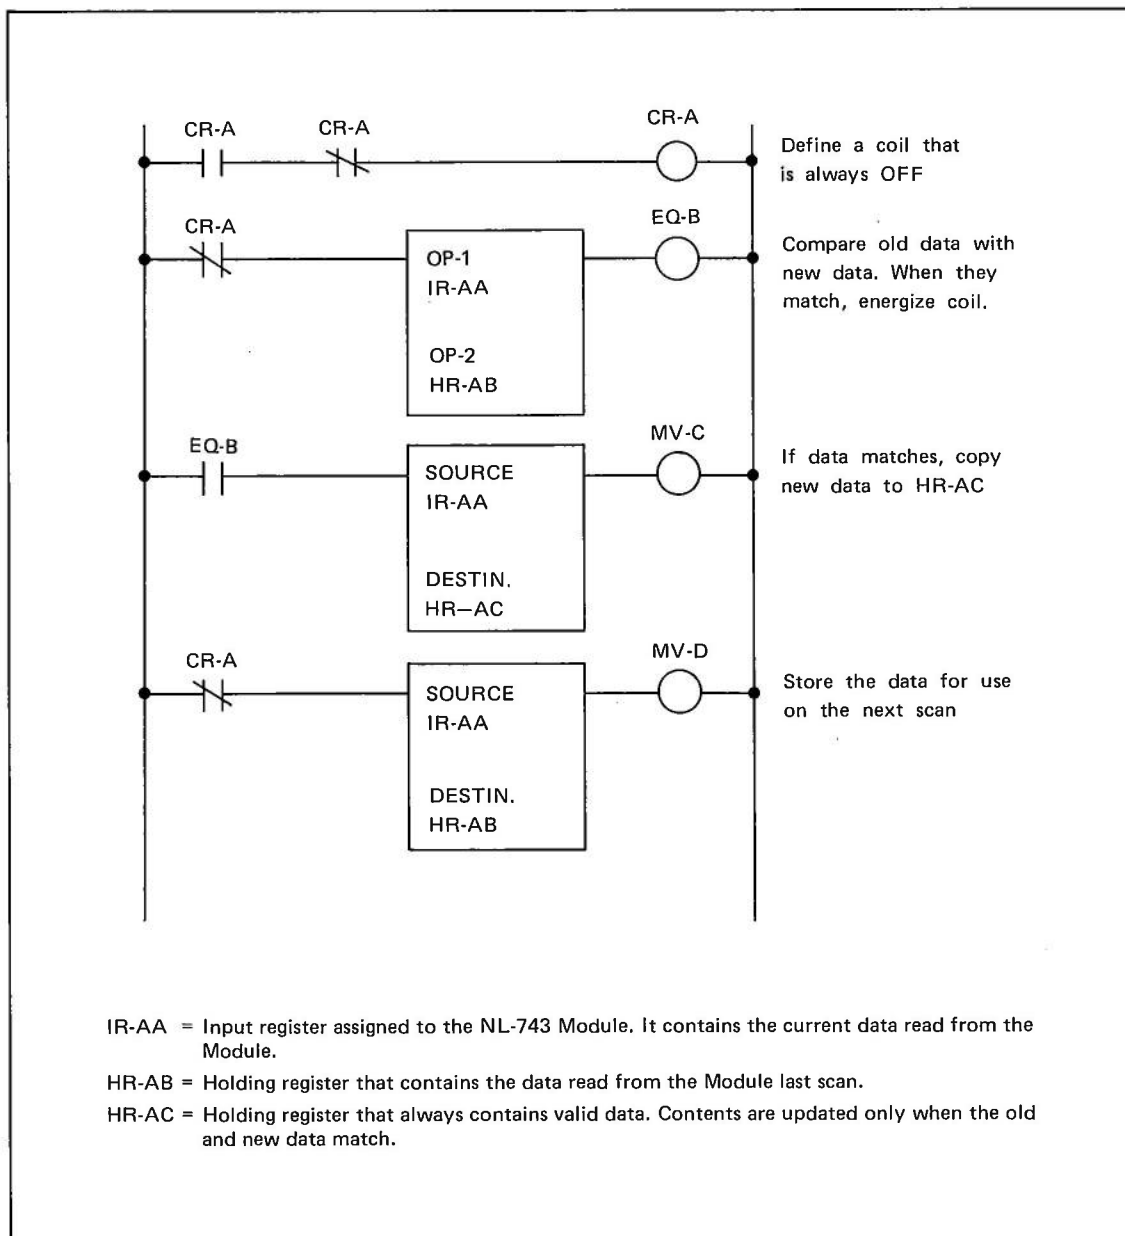

Figure 7 — Stabilizing Program (typical)
4. Another form of "synchronization" is through the user program in which rungs are written to assure that the new input data within a register has stabilized for 2 scans **before** it is made available to other Processor functions. A typical program is shown in Figure 7. (Note that if the EQ000X coil is de-energized for more than 1 scan, assume that input data is changing more rapidly than the Processor can accept.)